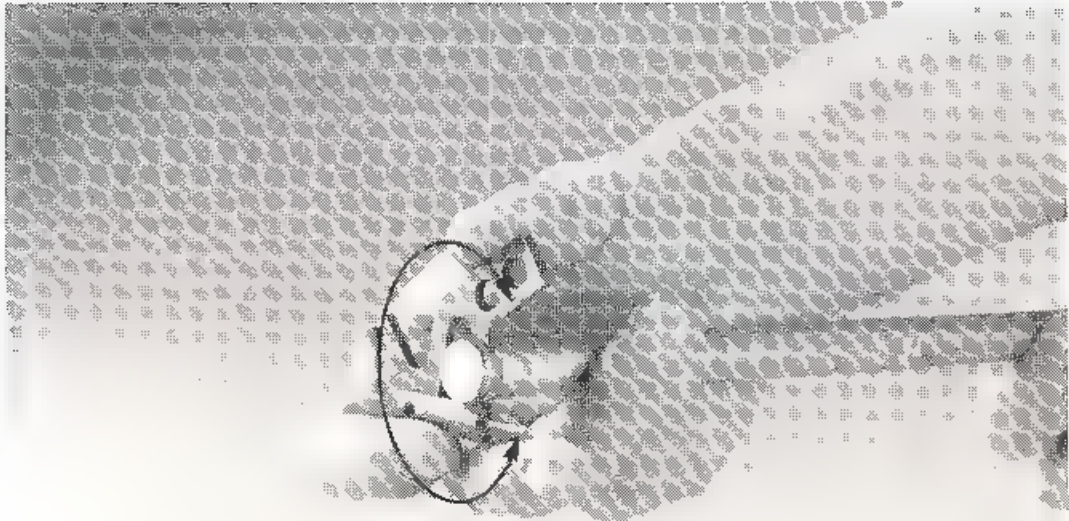

Fig. 40
- Clean the groove in the piston head by using the tool as shown in figure 40.